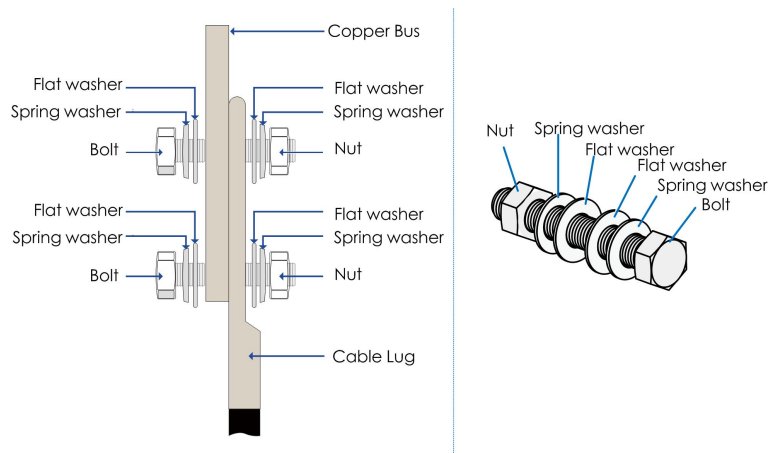

Figure 5-2 Copper wire connection
Step 4 Secure the OT terminal to the wiring hole by M5 bolt with a tightening torque of 4~4.8 N.m. (For detailed wiring procedure, please refer to "Figure 5-2 Copper wire connection".